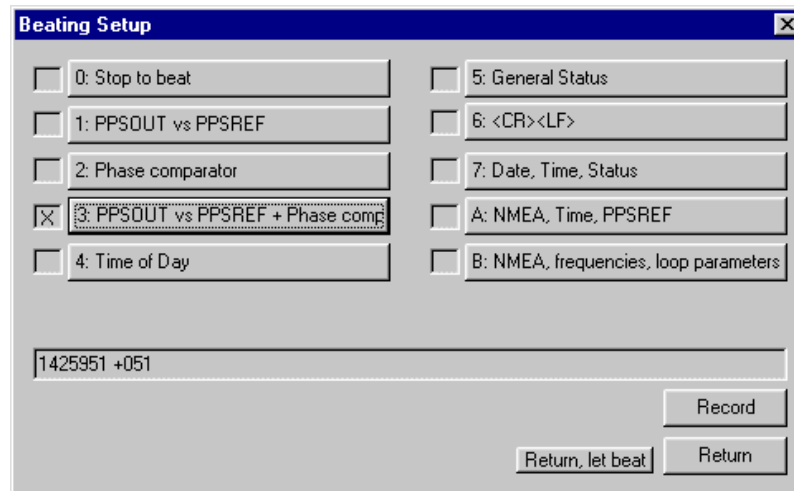

Figure 5: Dialog Box "Beat Signal" Setup
- As described before, see Figure 5: Dialog Box “Beat Signal” Setup, these values can be continuously recorded by clicking on the button “Record”. The data coming out from the SRO are append to the file srolog.txt